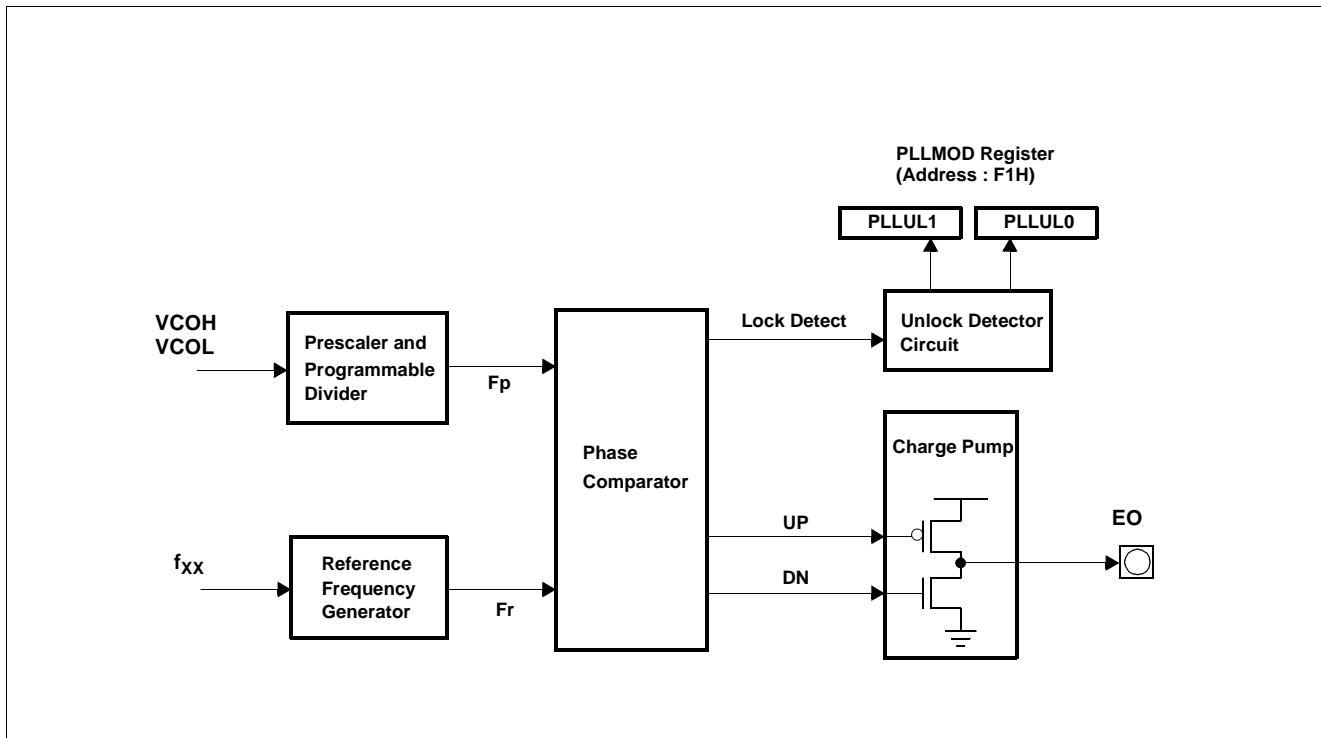

Figure 4-39 Phase Comparator, Charge Pump and Unlock Detector Circuit Configuration
Figure 4-39 shows the phase comparator, charge pump and unlock detector circuit configuration. The phase comparator compares the phase of frequency division output  $f_N$  from a programmable divider and that of reference frequency output  $f_r$  from a reference frequency generator and outputs up request (UPB) and down request (DWB) signals. The charge pump outputs the output of the phase comparator from error output pin (EO). The unlock detector circuit consisting of unlock flip-flop detects the unlock state of a PLL frequency synthesizer. .
As shown in Figure 4-39, the comparator compares the phase of frequency division output “ $f_N$ ” from a programmable divider and that of reference frequency output  $f_r$  from a reference frequency generator and outputs up request (UP) and down request (DN) signal. The UP signal is activated to low if divided frequency  $f_N$  is higher than reference frequency  $f_r$ . The DN signal is activated to high if the former is lower than the latter.
As shown in Figure 4-39, the charge pump outputs the UP and DN signal from a phase comparator from error output pins.
As shown in Figure 4-39, the unlock detector circuit detects the unlock state of a PLL frequency synthesizer using the up and down request signals from a phase comparator.